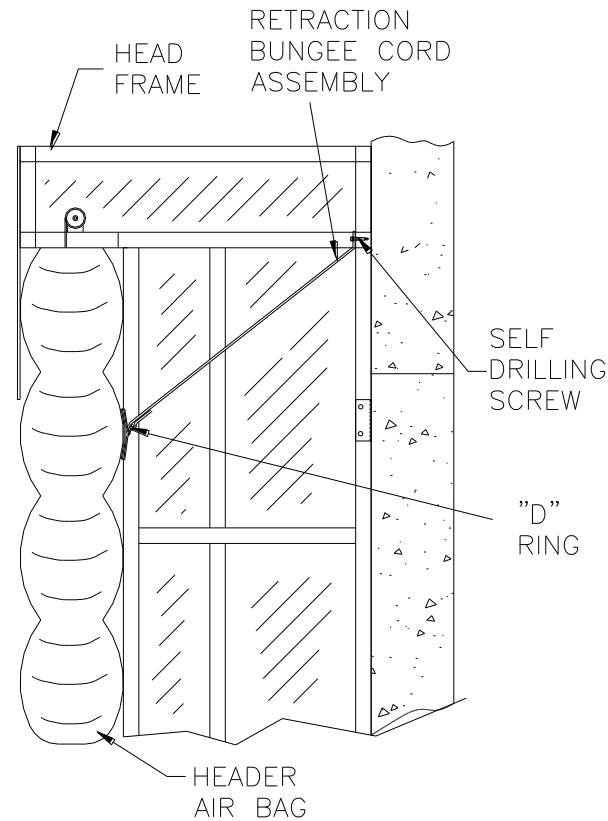

FIG. 14
c. Reattach Retraction Bungee Cord Assembly to Head Frame (Figure 14).